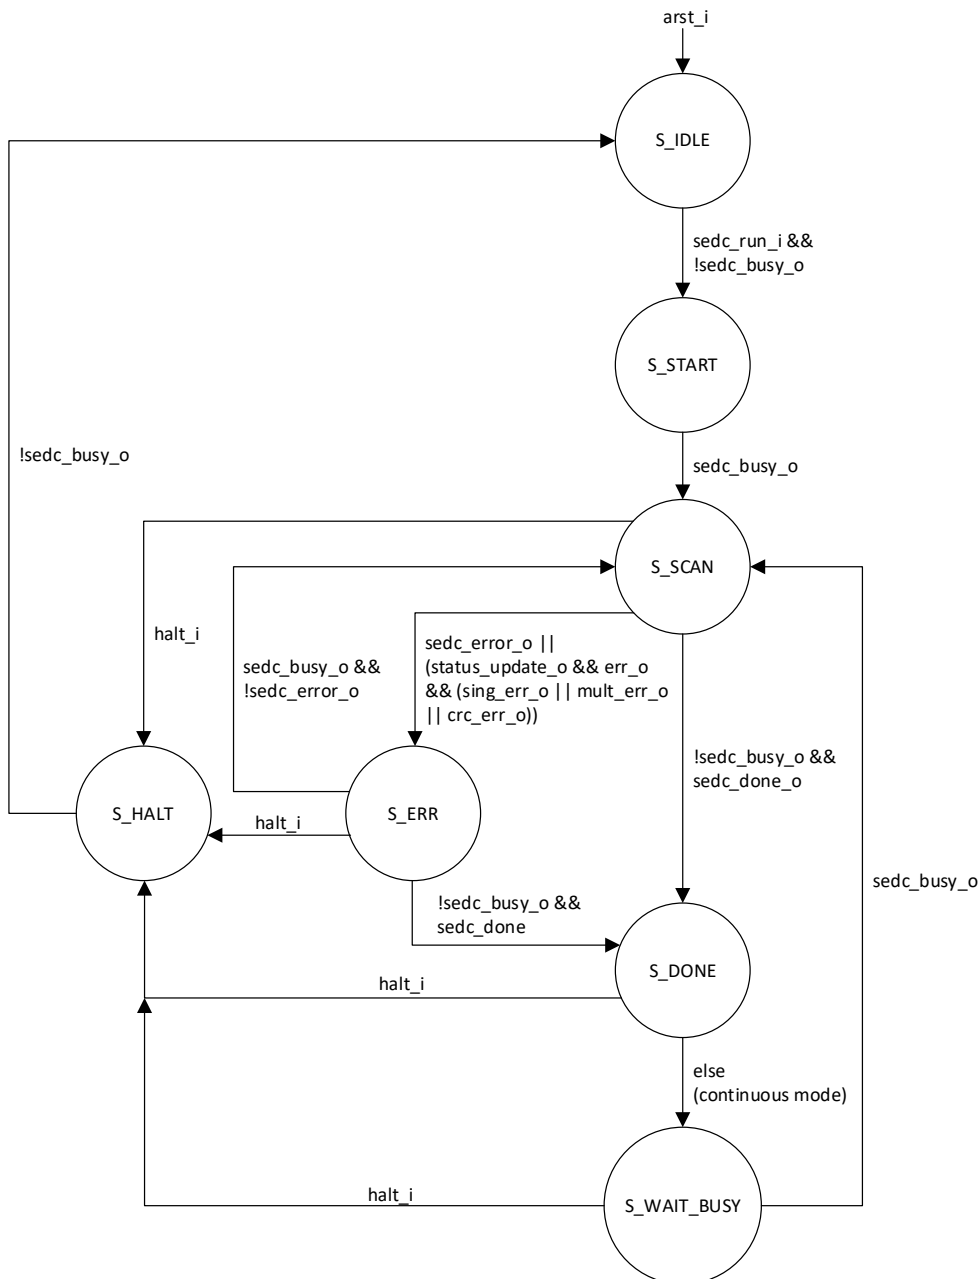

Figure 3.3. SEDC Controller FSM State Transition Diagram
- SEDC Controller: This block implements a state machine controller to interact with the SEDC Controller IP and external switches (push buttons) to perform SED and SEC functions. The following describes the finite state machine (FSM) behavior and state transitions as shown in Figure 3.3: